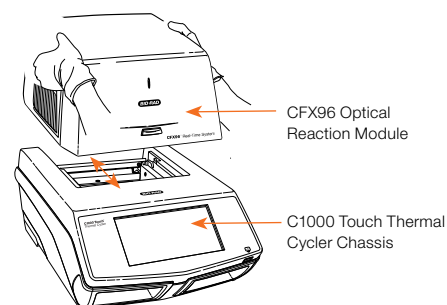

Fig. 1. Lifting the CFX96 Module onto the C1000 Touch Thermal Cycler Chassis.
2. Remove the instructions overlay from the C1000 Touch Chassis. Lift the reaction module using the handle indents above the side air vents (Figure 1).